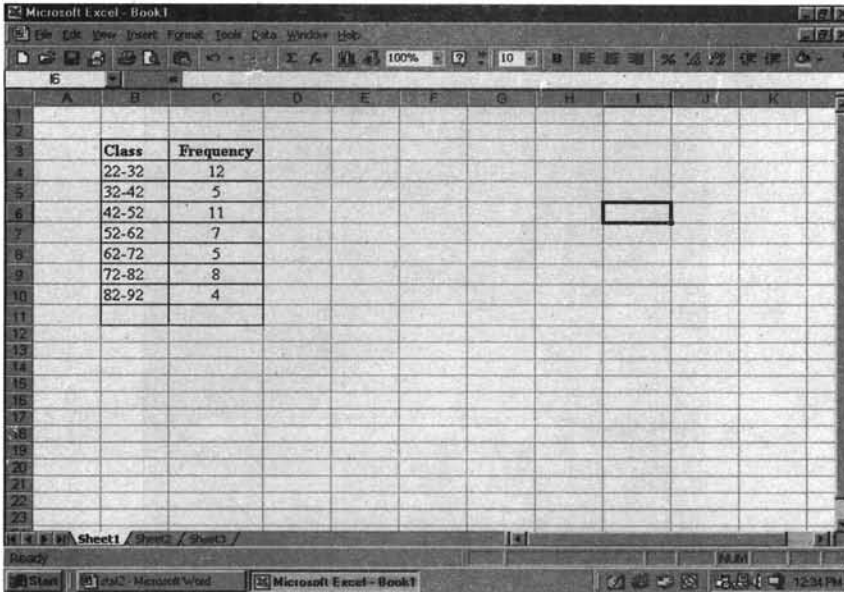

Figure 2.11
Step 1 Enter the data in the Excel spreadsheet. It may be pointed out that column B that contains classes will have to be in text format in order to communicate to Excel that you are not doing any subtraction operation. After highlighting the class column with the mouse, click Format. Click Cells and click *Text* under category. What you have now are text-formatted cells in column B. Enter by typing in each cell 22-32, 32-42, etc until the last cell that will have 82-92. The screen will look like this (figure 2.11).